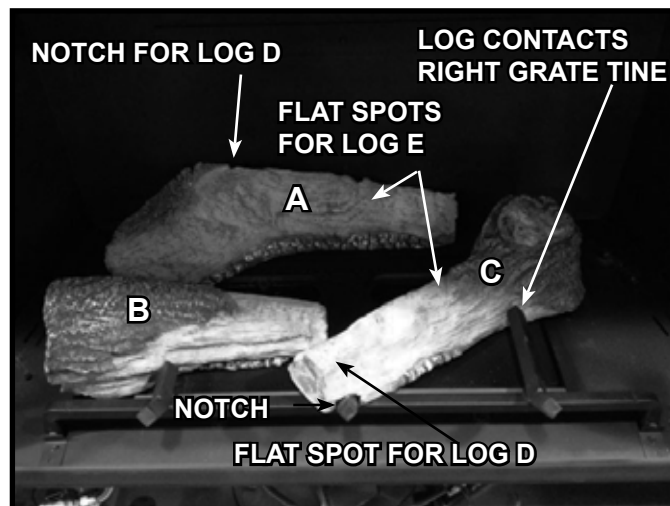
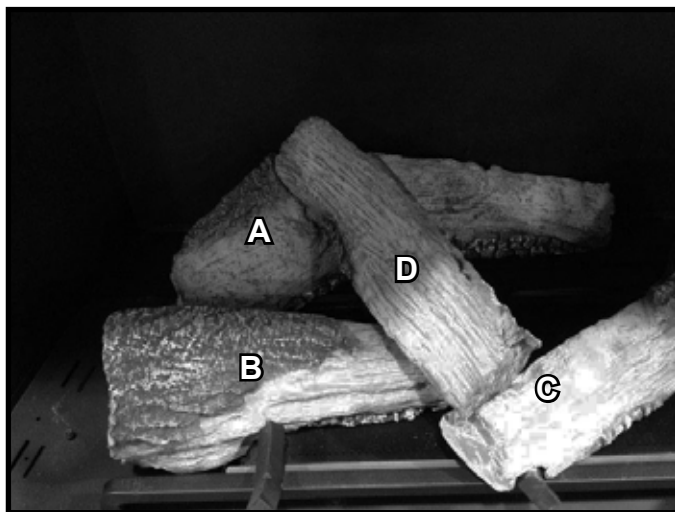
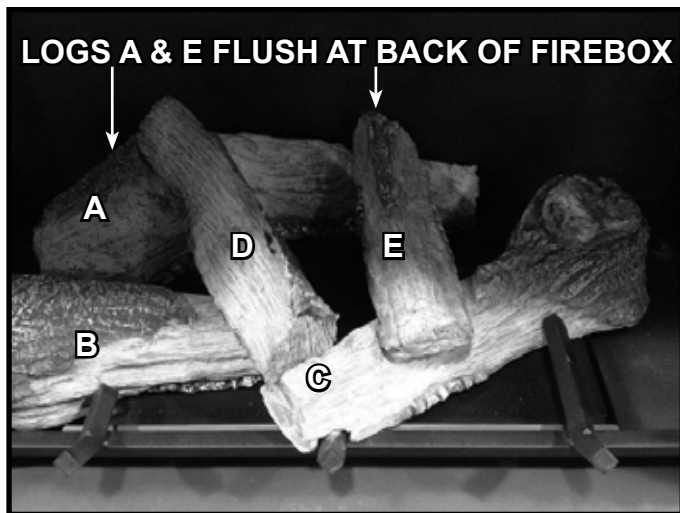

Figure 7. Log C Installed
Figure 8. Log D Installed
Figure 9. Log E Installed
3. **(LOG C):** Locate the notch on Log C. Place the notch over the center grate tine as shown in Figure 7. Slide the log toward the front of the appliance until the portion of the log closest to the rear of the firebox contacts the right grate tine.
4. **(LOG D):** Log D will utilize two flat spots for its placement as shown in Figure 7. The flat spots are located on Log A and on Log C. Locate the end of Log D that does not have bark and place it into the notch on Log A. Place the other end of Log D on the flat spot on Log C. See Figure 8. The front edge of Log A may lift slightly off the burner/hearth pan when Log D is placed properly.
5. **(LOG E):** Log E will utilize two flat spots for its placement as shown in Figure 7. The flat spots are located on Log A and on Log C. Place the “bark” end of Log E on the flat spot on Log A. Rest the other end of Log E on the flat spot of Log C. The back of Log E should be flush with the back of Log A. See Figure 9.